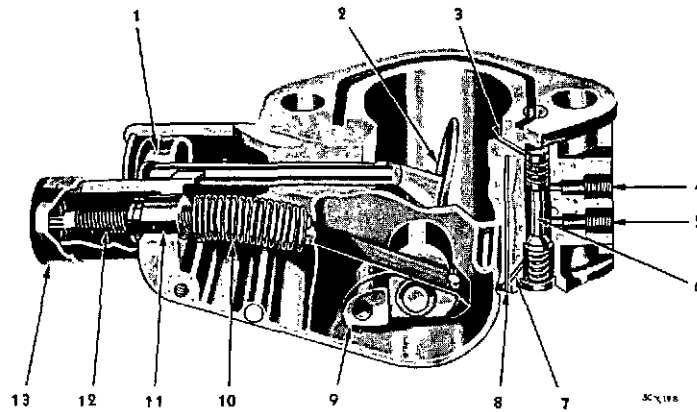

Figure 56 — King Seely (Handy) Governor (Sectional View)
#### ADJUSTING THE KING SEELEY (HANDY) GOVERNOR (Fig. 56)
To adjust governor, refer to Figure 56, and proceed as follows: For a **HIGHER** speed, turn adjusting cap (13) counter-clockwise or to the left; for **LOWER** speeds, turn adjusting cap clockwise or to the right. One turn of the adjusting screw will change the engine speed approximately 300 rpm.